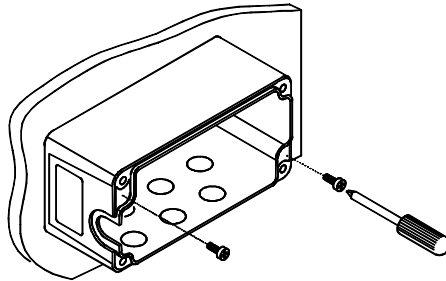

Figure 2.5 - Mounting Junction Box
- 2) Align the junction box and insert the two self-threading screws with their washers and screw them into the panel until tight (see Figure 2.5).